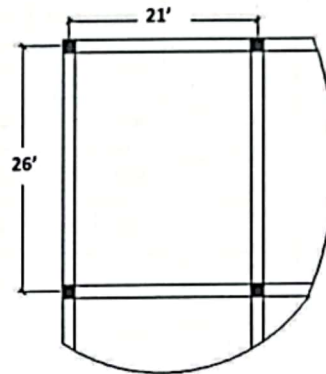

Fig. 3
| b) A monolithic reinforced concrete floor is to be composed of rectangular bays measuring $21' \times 26'$ , as shown in Fig. 3 Beams of width 12 in and depth 24 in are provided on all column lines. The floor is to be designed to carry a service LL of 137 psf uniformly distributed over its surface, in addition to its own weight. | (25) | 4 |
Use,  $f'_c = 3$  ksi,  $f_y = 60$  ksi. Find required slab thickness and reinforcement for the corner panel shown in Fig. 3.